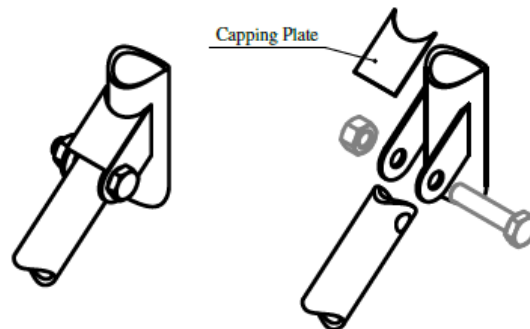
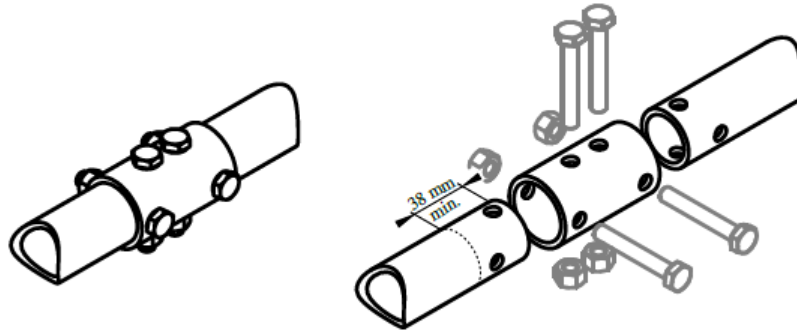

Figure 1: Double lug joint
Figure 2: Sleeved joint
T3.21.1 Any non-welded joint at either end of a bracing must be either a double-lug joint, see Figure 1, or a sleeved joint, see Figure 2. Spherical rod ends are prohibited.
- T3.21.3 Double lug-joints must include a capping arrangement, see Figure 1.